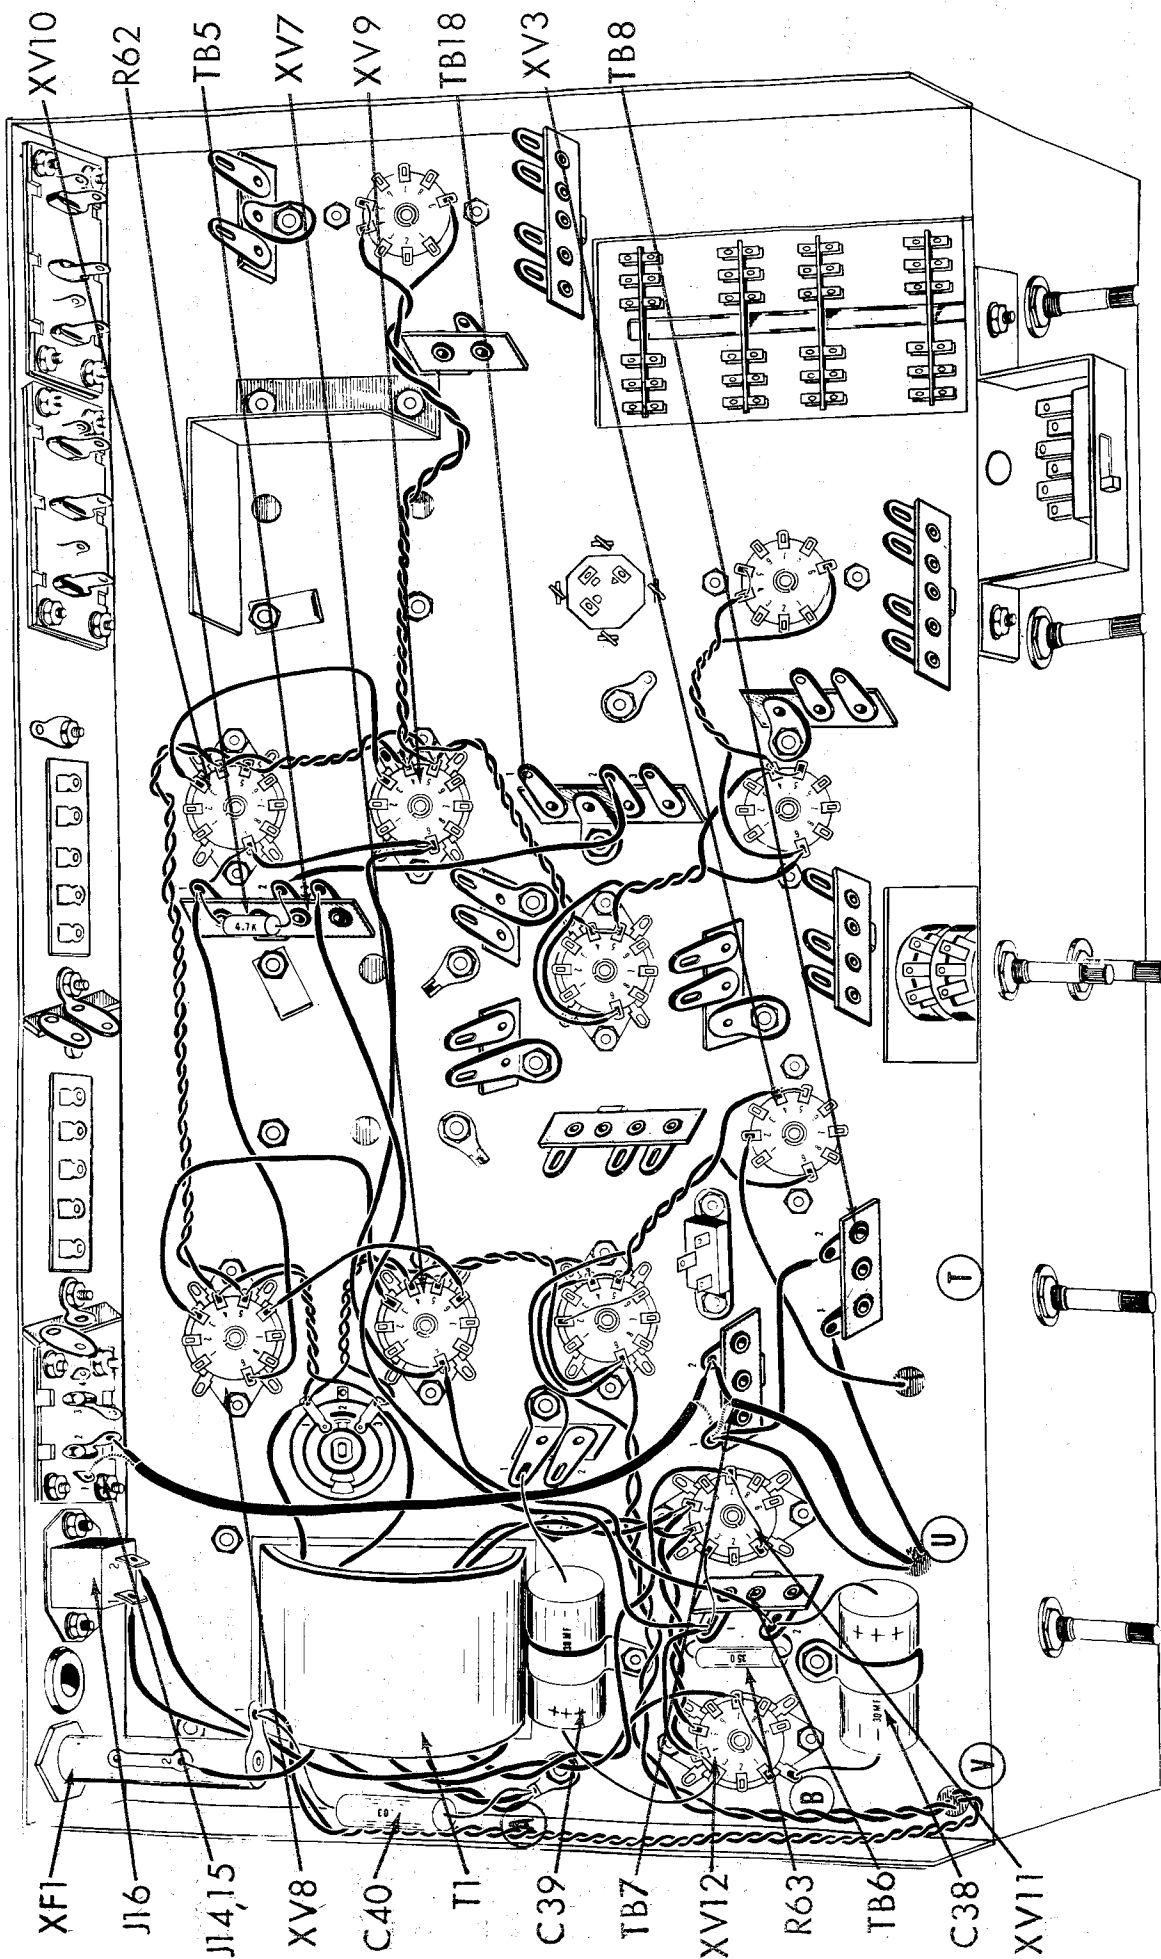

Fig. 7
1. (✓) Fig. 7. From the power transformer, T1, connect the red-yellow and white leads to ground lug "A" (C) at the power transformer.
2. (✓) Fig. 7. From the power transformer, T1, twist the two red leads and run along the chassis as shown. Connect one red lead to XV12-7 (C) and the other red lead to XV11-7 (C).
3. (✓) Fig. 7. Connect a 1" piece of bare wire from XV11-1 (S1) to XV11-7 (S2).
4. (✓) Fig. 7. Connect a 1" piece of bare wire from XV12-1 (S1) to XV12-7 (S2).
5. (✓) Fig. 7. Run the twisted pair of grey and black leads from hole "V" along the chassis as shown. Connect the grey lead to XF1-1 (C) and the black lead to J16-1 (C).
6. (✓) Fig. 7. Cut both leads on a .03mfd molded capacitor, C40, to 1" and cover each with a 3/4" piece of spaghetti. Connect one lead to XF1-1 (S2) and the other lead to ground lug "A" (S3). Be careful not to burn the leads running near ground lug "A".
7. (✓) Fig. 7. From the power transformer T1, connect the black lead (nearest ground lug "A") to J16-2 (C).
8. (✓) Fig. 7. Connect remaining black lead on power transformer, T1, to XF1-2 (S1).
9. (✓) Fig. 7. Connect the 350Ω, 10 watt resistor, R63, from TB6-1 (C) to TB6-2 (C). Cut both leads to 1 1/4" and cover each with a 1" piece of spaghetti.
10. (✓) Fig. 7. Cut both leads on the 30mfd electrolytic capacitor, C38, to 1 1/2". Cover the positive (+) lead with 1 1/4" piece of spaghetti and connect to TB6-2 (C). Connect the negative lead to ground lug "B" (S1) on XV12.
11. (✓) Fig. 7. Connect a 1/2" piece of bare wire from XV12-3 (C) to XV12-4 (C).
12. (✓) Fig. 7. Connect a 3" piece of red wire from XV12-4 (S3) to TB6-1 (C).
13. (✓) Fig. 7. Cut the positive (+) lead on the 30mfd electrolytic capacitor, C39, to 1 1/2". Cover with a 1 1/4" piece of spaghetti and connect to XV12-3 (S2). The other lead will be connected later.
14. (✓) Fig. 7. Connect a 6" piece of orange wire from TB6-2 (S3) to XV7-9 (C).
15. (✓) Fig. 7. Connect a 3/4" piece of bare wire from TB6-1 (C) to XV11-3 (S1).
16. (✓) Fig. 7. Connect a 7" piece of orange wire from XV7-9 (S2) to XV9-9 (C).
17. (✓) Fig. 7. Connect a 6" piece of orange wire from XV8-9 (S1) to TB5-1 (C).
18. (✓) Fig. 7. Connect a 3" piece of orange wire from XV10-9 (C) to XV9-9 (S2).
19. (✓) Fig. 7. Connect a 1" piece of bare wire from TB5-1 (C) to XV10-9 (S2).
20. (✓) Fig. 7. Connect a 4 1/2" piece of orange wire from TB5-2 (C) to TB18-2 (C).
21. (✓) Fig. 7. Cut both leads on a 4.7KΩ (yellow, violet, red, silver) 2 watt resistor, R62, to 3/4". Connect from TB5-1 (S3) to TB5-2 (S2).
22. (✓) Fig. 7. Connect a 3 1/2" piece of yellow wire from XV8-3 (C) to XV7-3 (C).
23. (✓) Fig. 7. Connect a 3 1/2" piece of yellow wire from XV10-3 (C) to XV9-3 (C).
24. (✓) Fig. 7. Connect an 8 1/2" piece of red wire from TB5-3 (C) to TB6-1 (S4).
25. (✓) Fig. 7. Connect the black wire from hole "U" to TB7-1 (C).
26. (✓) Fig. 7. Connect the green wire from hole "T" to XV3-2 (S1).
27. (✓) Fig. 7. Connect the yellow wire from hole "U" to TB8-1 (C).
28. (✓) Fig. 7. Connect a 3 1/2" piece of black wire from TB7-1 (C) to TB8-2 (C).
29. (✓) Fig. 7. Connect the outer shield from the single conductor shielded cable (from hole "U") to TB7-1 (C) and the inner conductor of the same cable to TB7-2 (C).
30. (✓) Fig. 7. Strip back the outer insulation 3/4" from one end of a 8" piece of single conductor shielded cable. Twist the shield strands together. Strip the insulation on the inner conductor back 1/4". Connect the shield to TB7-1 (C) and the inner conductor to TB7-2 (C). On the other end of the same cable, strip the outer insulation back 1/2". Twist the shield strands together. Strip the insulation on the inner conductor back 1/4". Connect the shield to J14, 15-1 (S1) and the inner conductor to J14, 15-2 (S1).